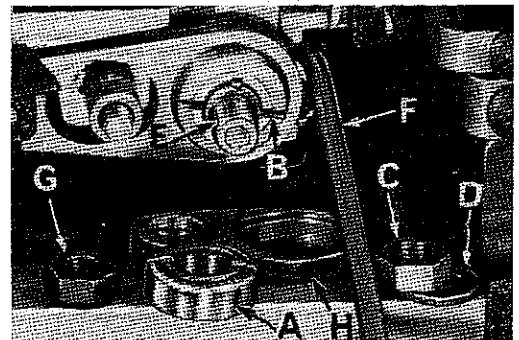

Fig. 13
If eccentrics are unusually tight fitting, in addition to removing nut (C) and washer (D, Fig. 13) from shaft (E), it may be helpful to remove nut (G) and feed driving connection (H). Then continue as originally suggested.